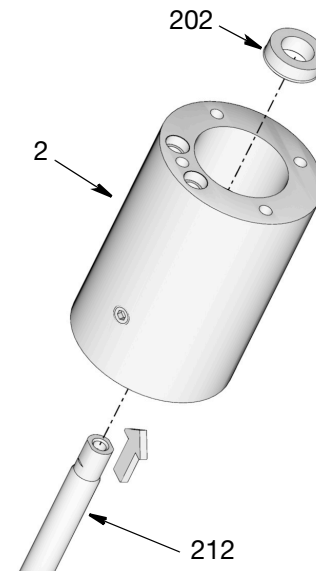

FIG. 35
27. Use the displacement rod (212) to push the packing u-cup (202) out of the pump adapter (2) in the direction shown in FIG. 35. Discard u-cup (202). A new one is included in the kit.